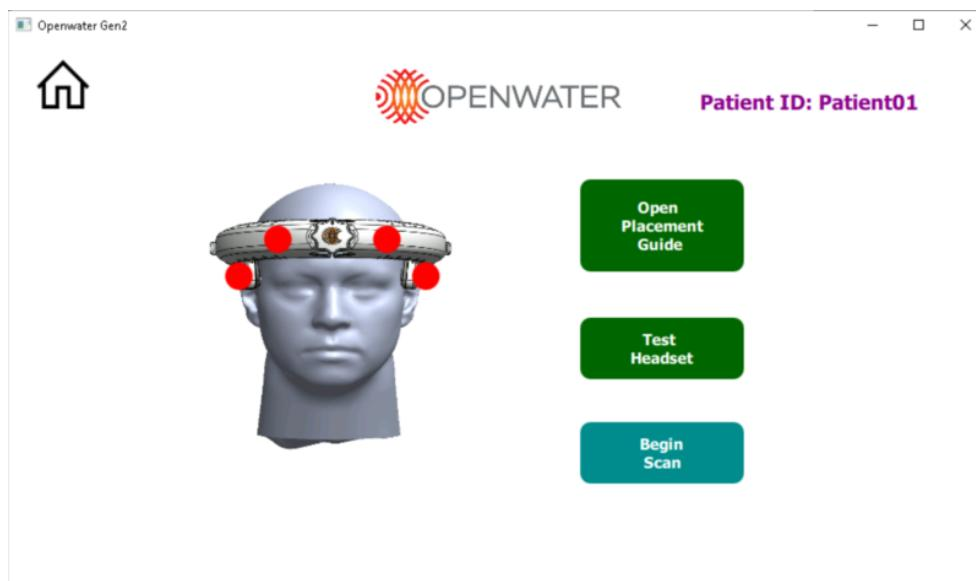
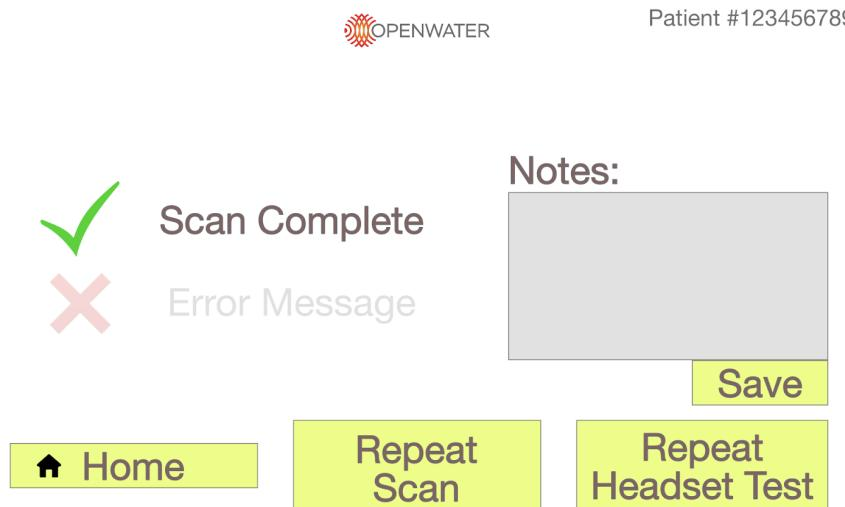

Figure 12: Choose placement guide or test headset.
Figure 14: Post-scan screen.
- The placement guide can also be opened by clicking the 'Open Placement Guide' button on the top right corner of the GUI screen as indicated in Figure 12, and it can be exited by pressing the 'Exit Guide' button on the bottom right corner of the screen.
- Test the fitment by pressing the 'Test Headset' button on the touchscreen as displayed in Figure 12.
- To begin the scan, press the 'Begin Scan' button on the lower right side of the touchscreen, as shown in Figure 12. This initiates the automatic process of starting up the laser, cameras and other control electronics, and turning them off after the scan is done.
- Once the scan is complete, the screen shown in Figure 14 is displayed, giving the user the option to take and save any notes regarding the scan, or displays an error message if an error was encountered during the scan. This screen also
4. Click the 'Test headset' button in the GUI window displayed in Figure 12, or if scanning after a scan, click on 'Repeat headset test' button as shown in Figure 14.